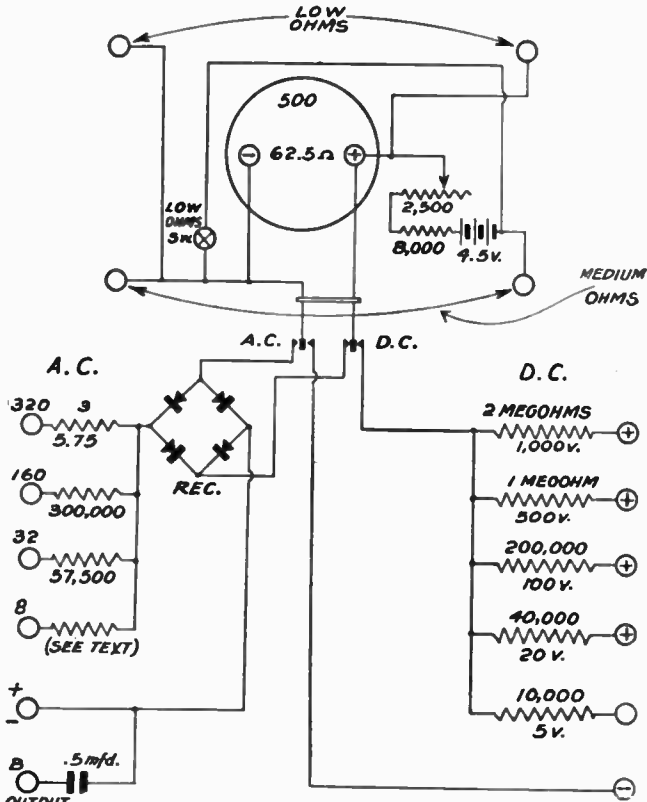

Fig. 607
A. A diagram is shown in Fig. 607. The resistor for the 8-volt a.c. range will have to be determined by experiment. This is because of the resistance of the rectifier, REC, which may be an ordinary meter rectifier. It will form an appreciable part of the resistance in circuit on the 8-volt scale which should total 14,400 ohms.